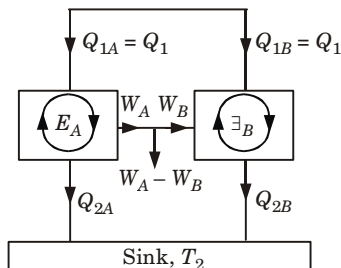

Fig. 2.14.3. E_A and E_B together violate the Kelvin-Planck statement.
9. The source may, therefore, be eliminated (Fig. 2.14.3). The net result is that E_A and E_B together constitute a heat engine which, operating in a cycle, produces net work $W_A - W_B$, while exchanging heat with a single reservoir at T_2 . Violates the Kelvin-Planck statement of the second law. Hence the assumption that $\eta_A > \eta_B$ is wrong.